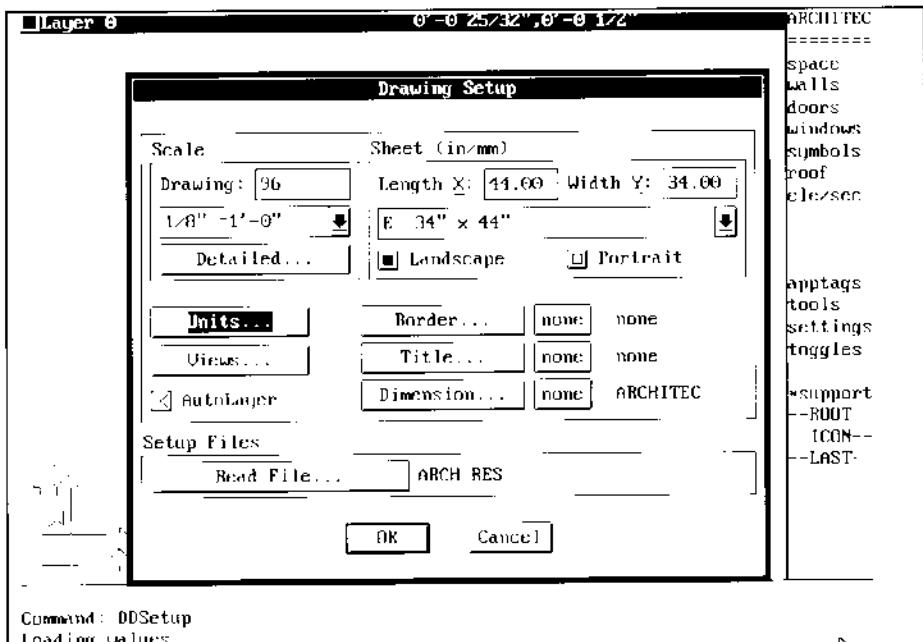
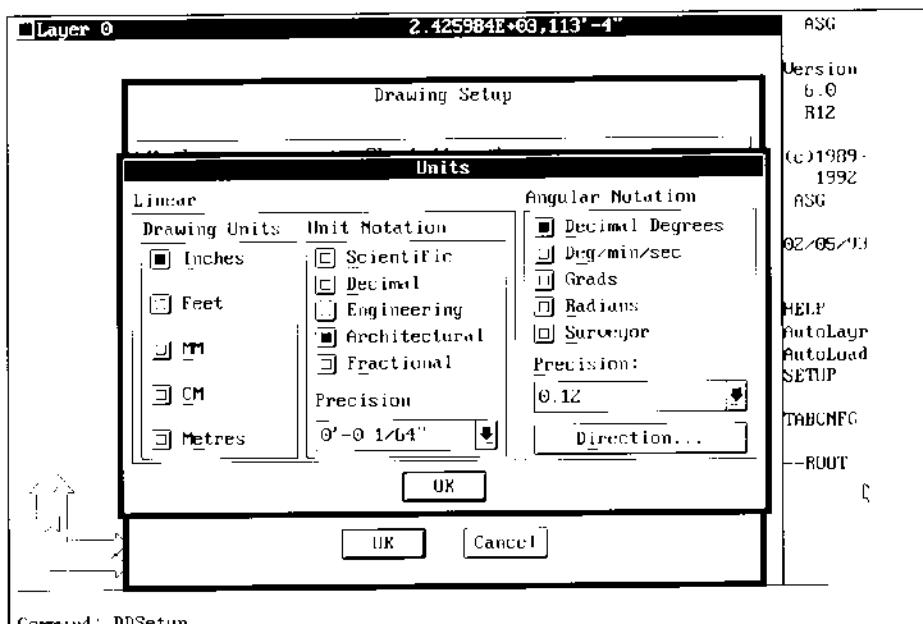

Figure 4.
Figure 5.
6. Section boxes for Scale and Sheet contain subdialog pick boxes, edit boxes, or popup lists as shown in Figure 4. Additional pick boxes can be selected to set the drawing Units, create a Border, insert Title blocks, and so on.
9. Select the Units... pick box as shown in Figure 4 to open the Units subdialog box. Pick the radio buttons with your pointing device, toggling both Inches and Architectural to establish Drawing Units and Unit Notation, as shown in Figure 5.